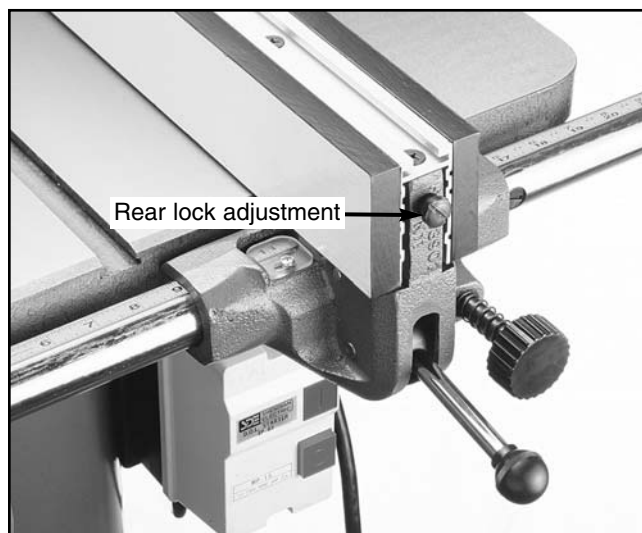

Figure 27.
3. With the fence in the locked position, loosen the rear lock adjustment (the slotted screw on the front of the fence) until the rear locking lever ceases to engage the rear rail. **Figure 27.**